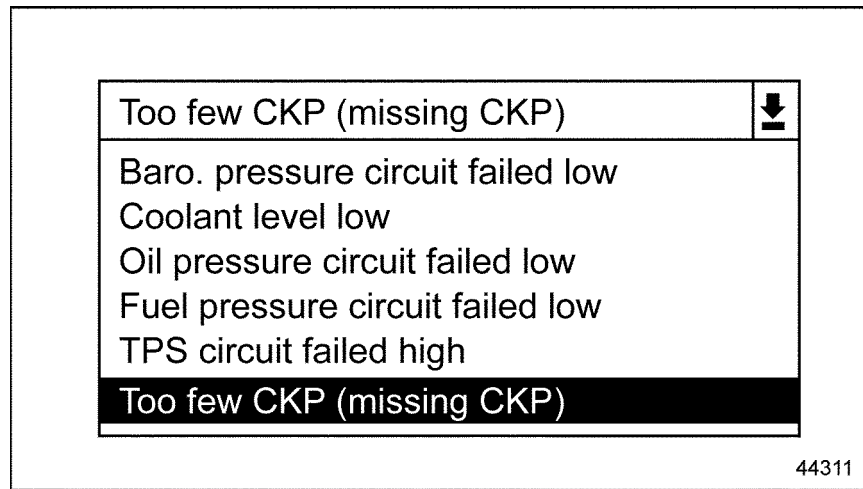

Figure 18-14 Event Drop Down Box
6. Click on the event drop-down list box to display the list. See Figure 18-14.